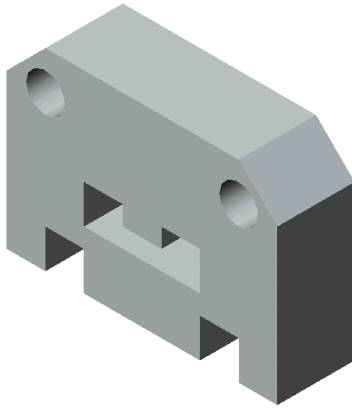
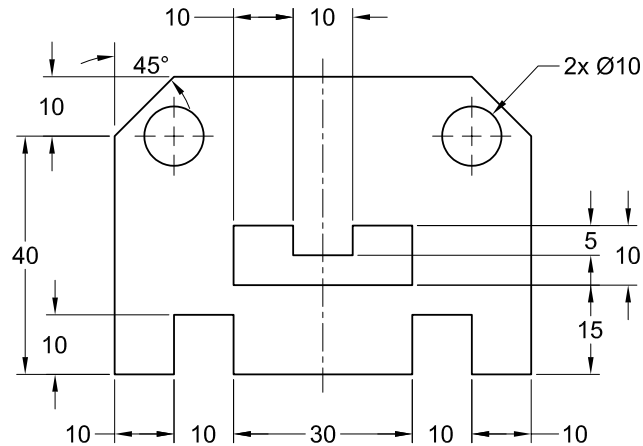

Figure 2-66 Solid model for Tutorial 4
Figure 2-67 Sketch of the model for Tutorial 4
- e. Draw the inner circle using the **Circle** tool, refer to Figure 2-66.
In this tutorial, you will draw the sketch of the model shown in Figure 2-66. The sketch of the model is shown in Figure 2-67. Do not dimension the sketch. The solid model and the dimensions are given for your reference only.